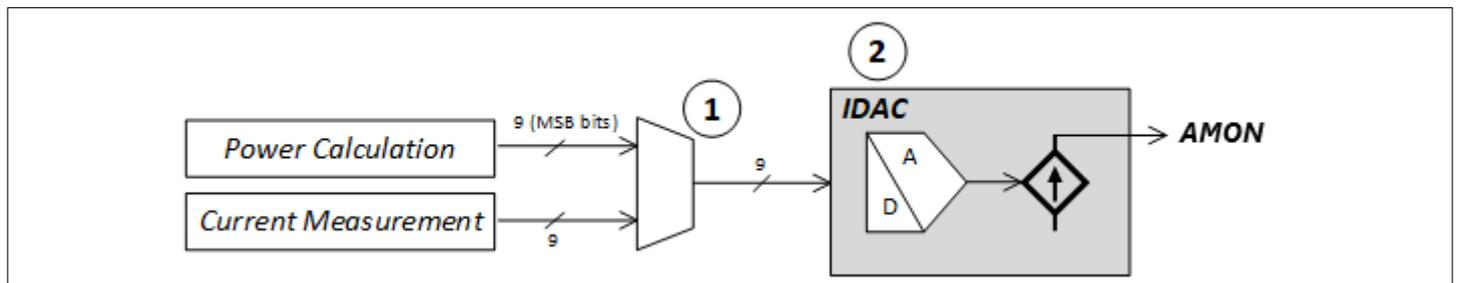

Figure 5 AMON generation
The analog reporting (AMON) of the load current (IMON) or input power (PMON) signal is provided at the AMON pin by configuring the corresponding bits in the TELEMETRY\_AVG command. As shown in the Figure 5, information is taken from the IOUT data path and PIN data output, which goes into a digital multiplexer (1), configurable by means of TELEMETRY\_AVG command. The output of the multiplexer then goes to an IDAC (2), which outputs a current level proportional to the corresponding current or power digital input at the AMON pin.